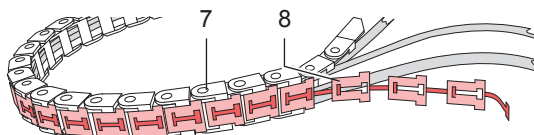

Fig. 17 Open of the energy track - Sensor labelling position
- ▶ Loosen screws (5) to dismount the energy track on one side only.
- ▶ Detach the into one another looked divide in T-form (7) from the divide in U-form (8) of the energy track. (Figure 17)
- ▶ Close the energy track again. Press in the T-form (7) pieces into the U-form (8) pieces.